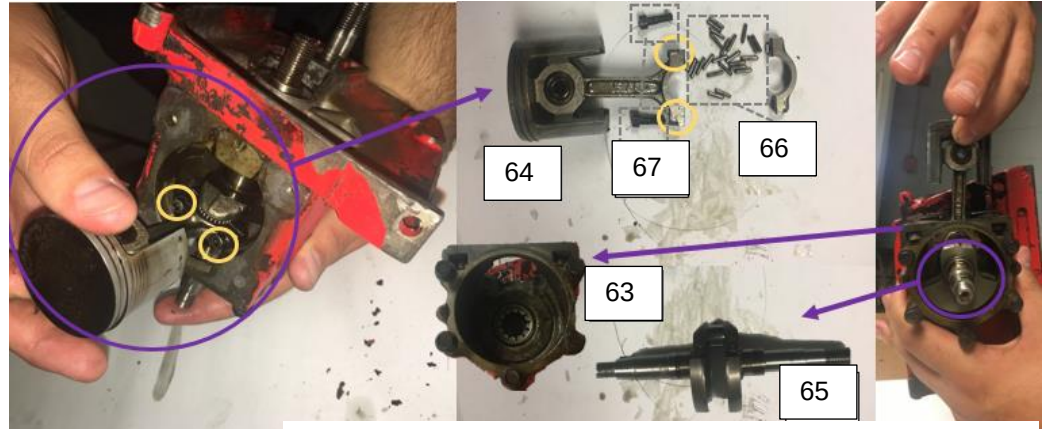

Figure 27: Engine-Crank Shaft Removal
Step 25: Use a 1/4in wrench to unscrew the two Piston Bolts (67). Disconnect the two parts of the Piston (64) and remove the Piston and Needle Bearings for Crank Shaft (66) from the main assembly. (Figure 27)
Step 26: Manually remove the Engine Housing (63) and Crank Shaft (65), and unscrew the Crank Shaft from the Engine Housing. (Figure 27)